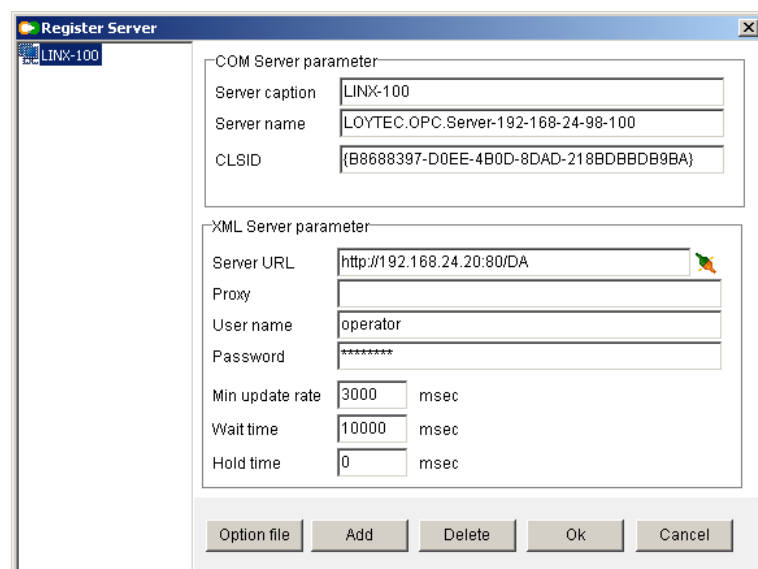

Figure 124: Register Server dialog in the bridge software.
5. A new server entry is added. Enter the information on **Server caption** (this is displayed), **Server name** (this is the COM object name), and the **Server URL** (the URL of the LINX-10X device) as shown in Figure 124.